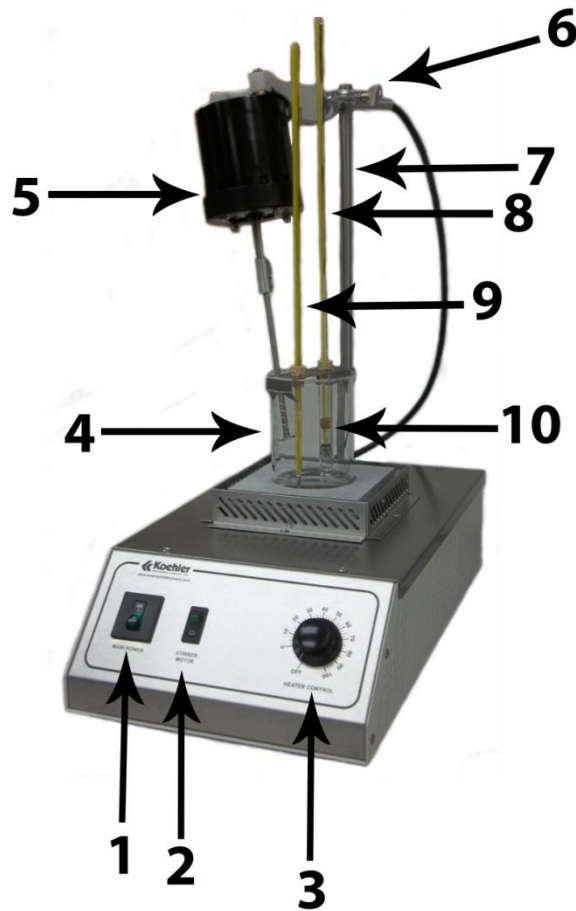

Figure 2: Instrument Descriptions_Front
6. Please refer to Figure 2 below for an illustration of the fully assembled Beaker and Test Tube Assembly from steps 1 thru 5 above.
3. Power on the unit by pressing the power switch (Figure 2, Item 1) to the ON position.
4. Turn on the stirrer motor by pressing the Stirrer Motor Switch (Figure 2, Item 2).
5. Turn the Temperature Control Dial (Figure 2, Item 3) Clockwise to begin heating the sample.